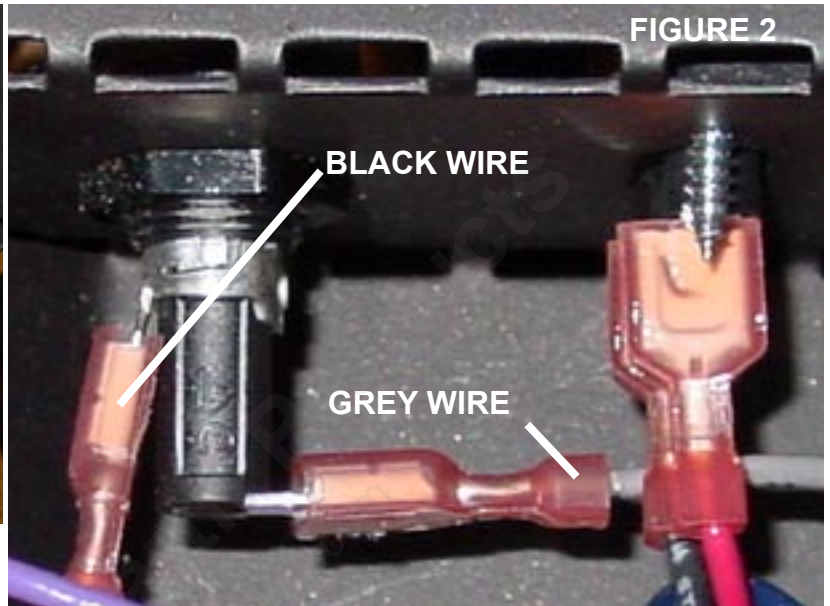
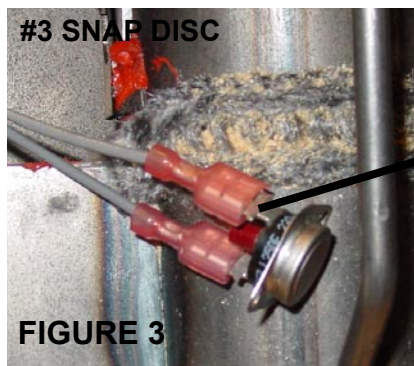
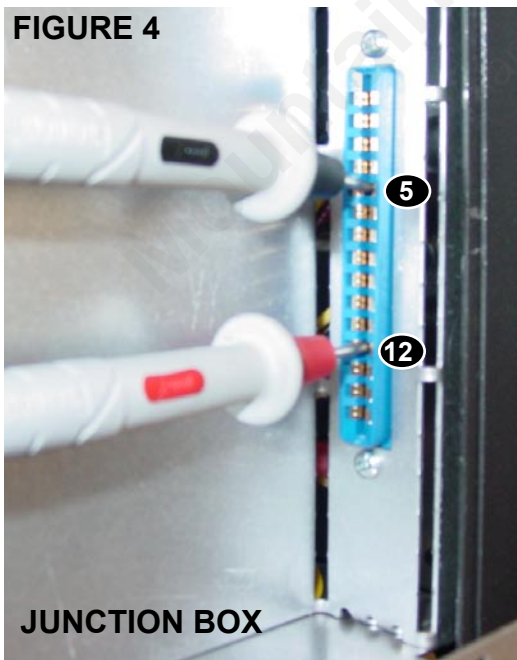

FIGURE 2
FIGURE 3
FIGURE 4
- 2) **CHECK FOR POWER AT THE GREY WIRE ON THE 7 AMP FUSE HOLDER. (SEE FIG. 2)**
- 3) **CHECK FOR POWER AT THE GREY WIRES ON SNAP DISC #3. (SEE FIG. 3)**
- B. IF POWER IS PRESENT---CHECK FOR CONTINUITY AT PIN 5 (WHITE WIRE) TO POWER CORD (FIG.4 & 5) OR REPLACE THE CONTROL BOX
- 2) SET THE VOLT METER TO OHMS AND PUT THE PROBES ON PIN 5 & PIN 12. (SEE FIGURE 4)
THE FIREPOT IS JUST ONE COMPONENT OF THE TOTAL COMBUSTION SYSTEM. COMBUSTION AIR FLOWS INTO A ROUND OPENING LOCATED UNDER THE ASHPAN IN THE BOTTOM OF THE UNIT. (SEE *FIGURE 2) THIS AIR TRAVELS AROUND THE ASHPAN HEAT SHIELD LOCATED BELOW THE BOTTOM OF THE FIREPOT. (SEE *FIGURE 3) COMBUSTION AIR WILL FLOW THROUGH THE AIR OPENINGS IN THE FIREPOT AND IS THEN TRANSFORMED INTO EXHAUST GASES. THE EXHAUST GASES WILL FLOW FROM THE FIREPOT TO THE BAFFLE PLATES AND HEAT EXCHANGER TUBES. (SEE *FIGURE 4) THE EXHAUST WILL FLOW FROM THE HEAT EXCHANGER TUBES TO THE EXHAUST BLOWER HOUSING. (SEE *FIGURE 5) THIS COMPLETES THE NEGATIVE PRESSURE OR VACUUM PORTION OF THE COMBUSTION SYSTEM. AFTER THE EXHAUST ENTERS THE EXHAUST BLOWER HOUSING IT IS THEN PUSHED OUT INTO THE VENT PIPE OR CHIMNEY PORTION OF THE EXHAUST SYSTEM. (SEE *FIGURE 6)